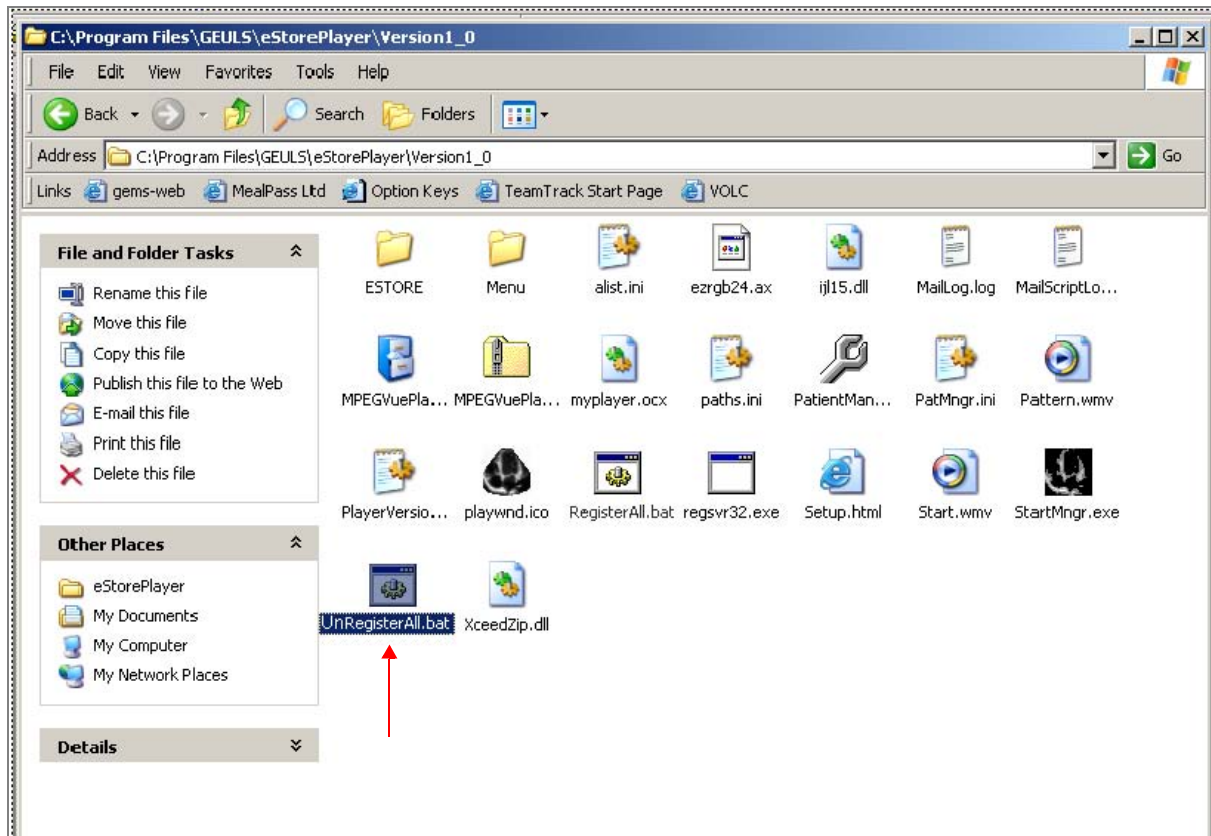

Figure 3-112 Uninstall MPEGvue - Stage 1
- 3.) From the **C:\Program Files\GEULS\eStorePlayer\Version1_0** folder, double-click on the **UnRegisterAll.bat** icon, as shown in Figure 3-112 below.